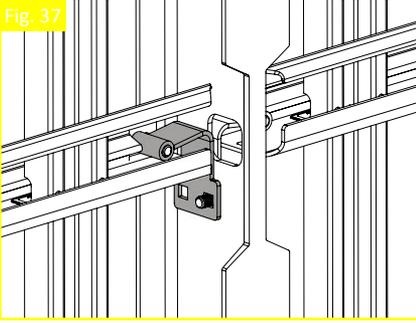

Fig. 38
6. Using the Tri-Groove Socket, fasten the 3/8" - 16 Thread Tri-Groove Nut onto the previously inserted 3/8" - 16 x 1" Square-Neck Carriage Bolt. As shown in Fig. 38 & 39.